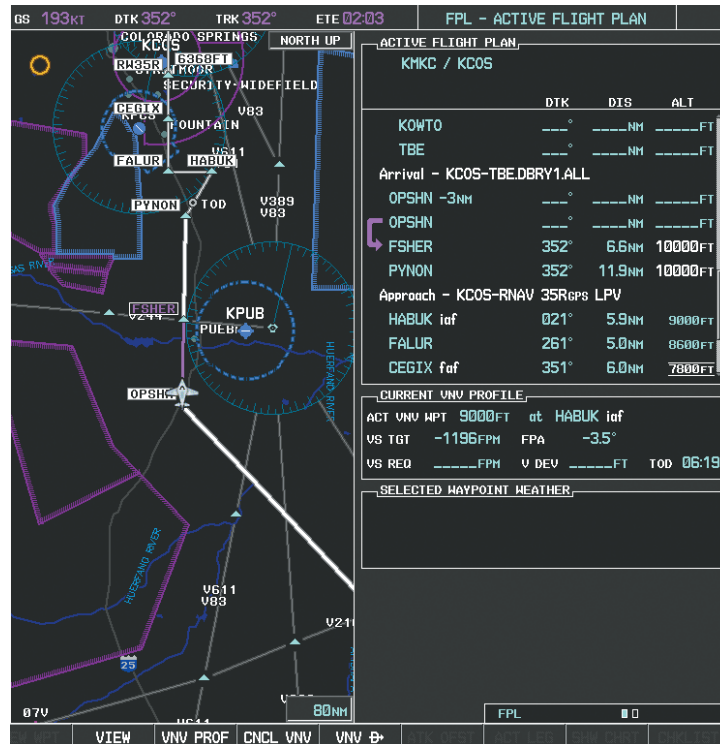

Figure 5-137 Tracking the OPSHN to FSHER Leg
- 19) After passing OPSHN, the next leg of the arrival turns magenta as shown in Figure 5-137. The magenta arrow in the flight plan list now indicates the OPSHN to FSHER leg of the arrival procedure is now active.